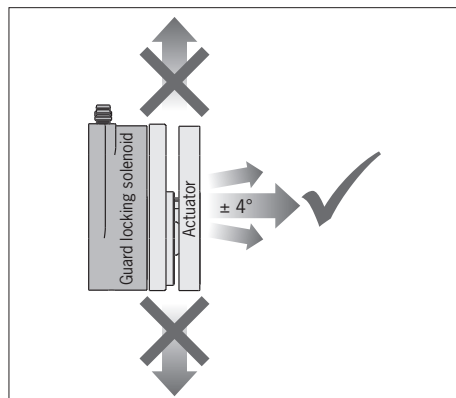

Fig. 1: Approach direction
- ▶ When the safety door is opened, the actuator must be moved away from the guard locking solenoid toward the front (see Fig. 1).
Adjustment angle (see Fig. 1)	± 4°